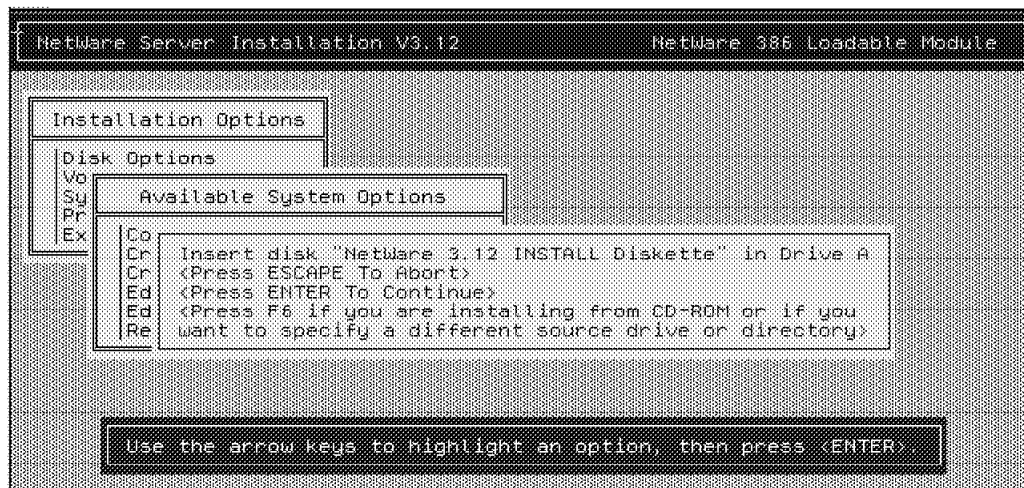

Figure 87. Copy System and Public Files
34. Select **Copy System and Public Files** and press Enter. A screen like the one in Figure 87 will appear.